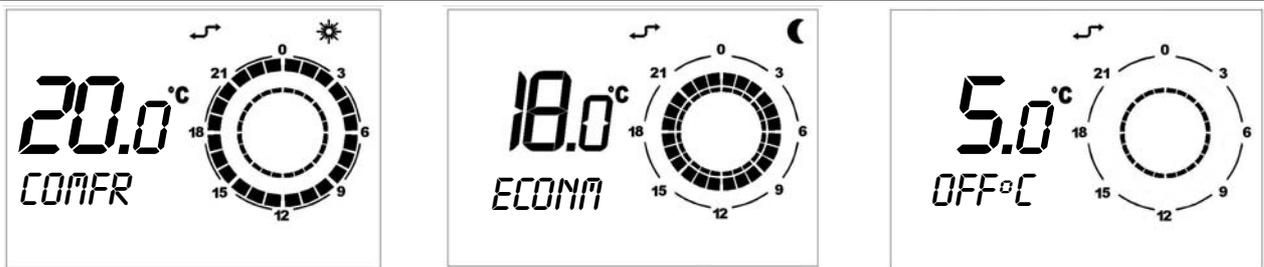

Figure 3 – Comfort, economy and anti-frost temperatures
3. In the lower left-hand corner of the display, *COMFR* will appear for the programming of the comfort temperature, *ECONM* will appear for the programming of the economy temperature, and *OFF°C* will appear for programming of the freeze protection temperature (see Figure 3).